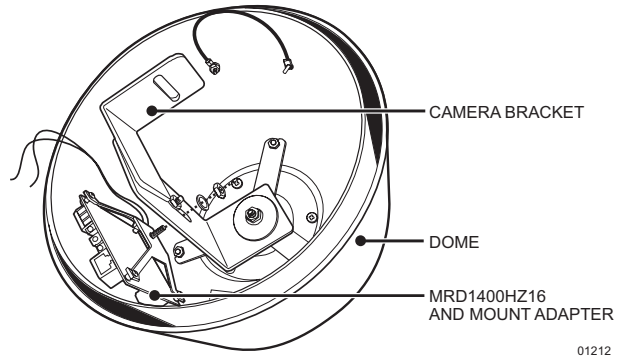

Figure 3. DF5/DF8 Installation
4. Refer to Figure 3. Attach the board to the tilt table with the supplied #10 nut and washer.